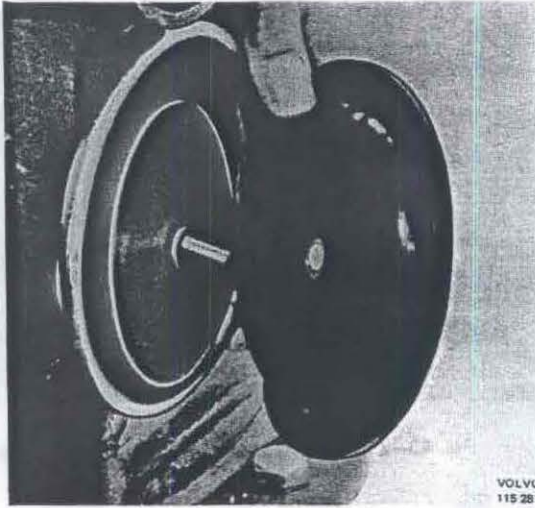

Fig. 43-207. Fitting diaphragm
2. Fit the diaphragm and place the spacer washer in the centre of the diaphragm, Fig. 43-207. Fit on the outer washer and the lock nut. Hold the diaphragm and washer when tightening up the nut.